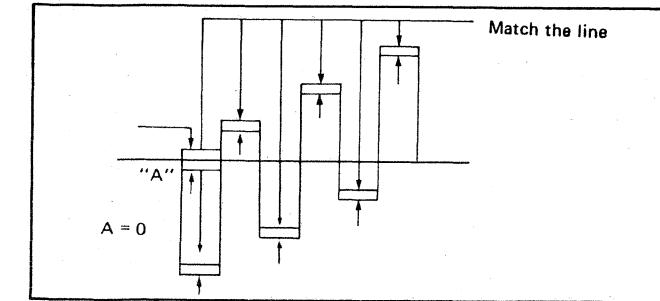

Fig. 7
4. Adjust R614 (Delay Line) so that the signal level "A" becomes 0 as shown in Fig. 7.